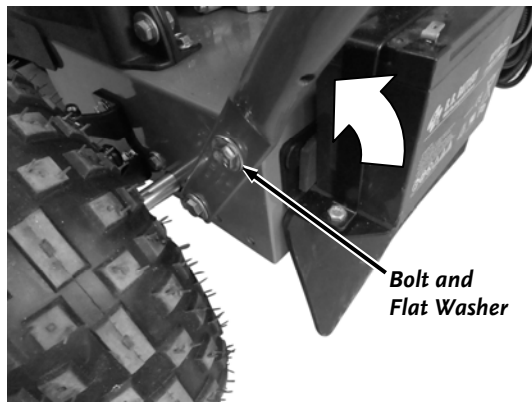

Figure 6
4. Rotate the Handlebar up and install a 3/8-16 x 1-1/4" Bolt and 3/8" Washer on both sides to hold the Handlebar upright (**Figure 6**). Tighten all Handlebar Hardware using 9/16" Wrenches.